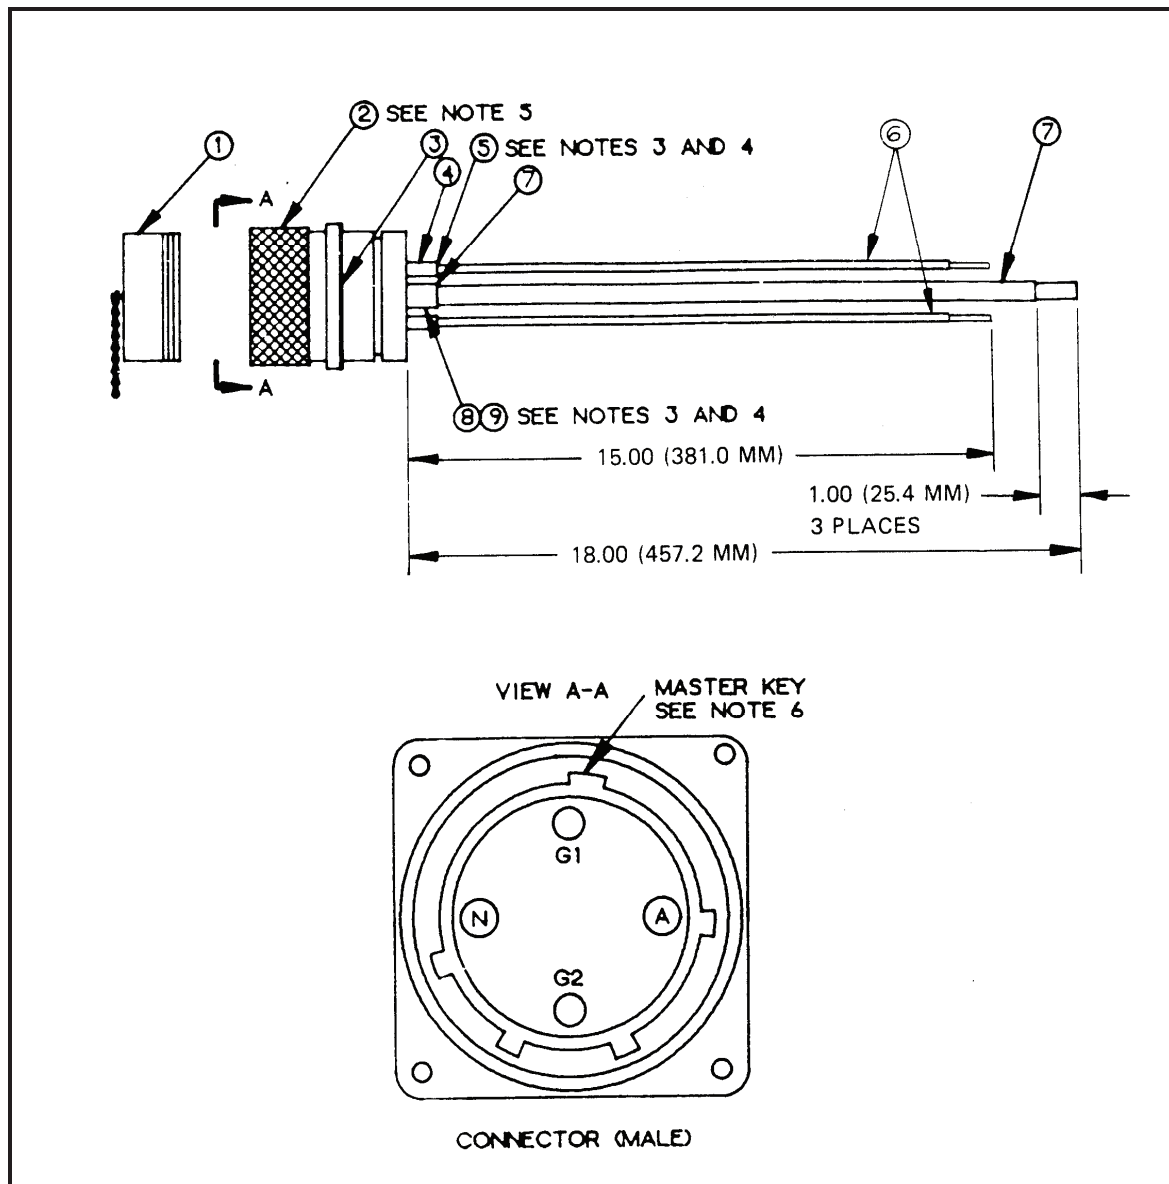

Figure F-31. Distribution Center Input Connector, M60 A/P (PDISE), 60-Amp (J1)
Component Legend for Figure F-31
- c. Electrical connector (Figure F-31, Item 2) is furnished with the following: